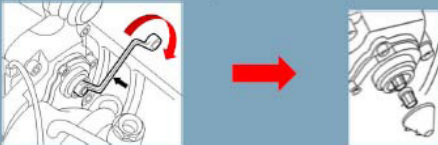

Figure 14 - Install Brake Pads
1.15. Install brake pads, installing new brake pads is an option (see Figure 14).